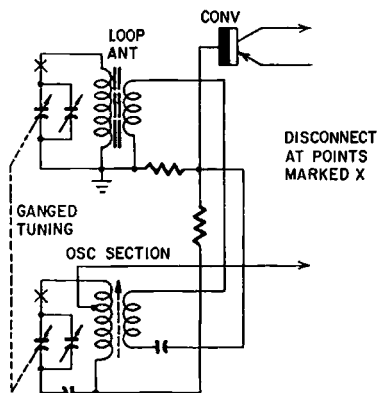

Fig. C-4. Check scraping capacitor plates by disconnecting leads at points marked X and shunting the capacitor with an ohmmeter.
2. Clip one lead of an ohmmeter to the stator and the other lead to the rotor of a section. Turn the capacitor the full arc until the meter shows which section is shorting. Often one or more portions of a section may be shorting. See Fig. C-4.
A single transistor, as shown in Fig. C-4, can perform the dual functions of mixer and local oscillator and is then known (just as in the case of a vacuum tube) as a converter. Unlike vacuum tube circuits, however, transistor local oscillator voltage cannot be measured by checking the dc drop across a resistor. An rf vtvm must be used to determine the amount of local oscillator voltage developed. (In either vacuum tube or transistor receivers, failure to develop local oscillator voltage means no sound out of the speaker.) If an rf vtvm is not available, set the dial of the receiver to a strong station and turn up the volume control. Loosely couple